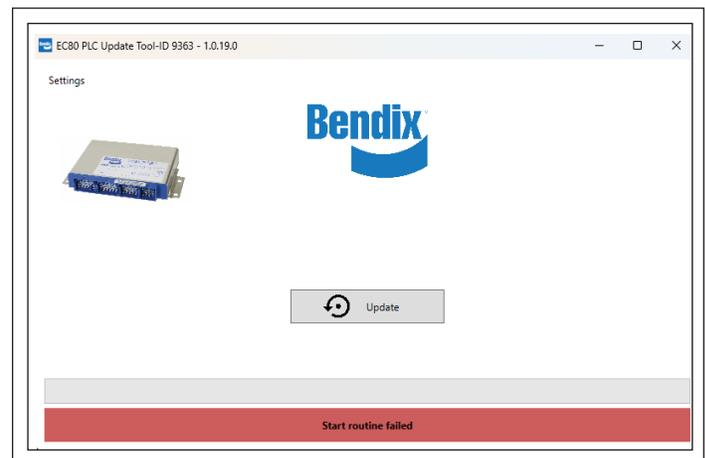

Figure 3 – Update Failed
- If the update fails, the screen will show that the software was unable to be updated. Power cycle the vehicle and restart the update procedure from Step 1. See *Figure 3*.